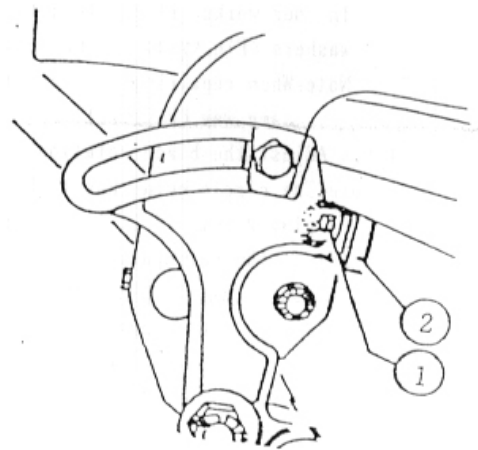

Fig.56
8.9.2 Replace guide plate (Fig 56)
2. Unscrew fastening bolts (1)
3. Remove guide plate (fig56/2)